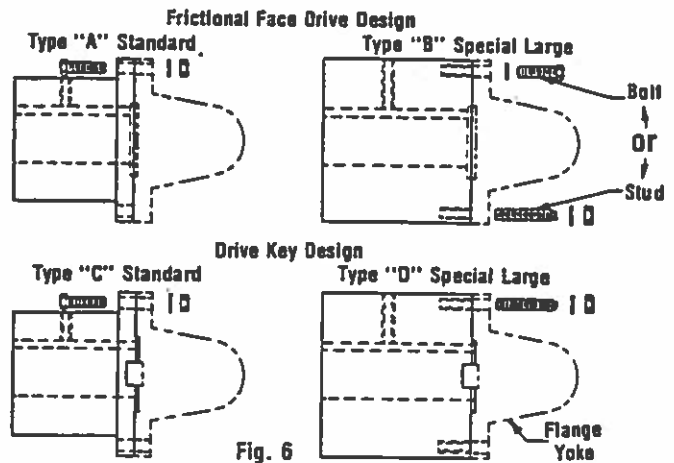

Fig. 6
- There are four types of flanges as shown in Fig. 6